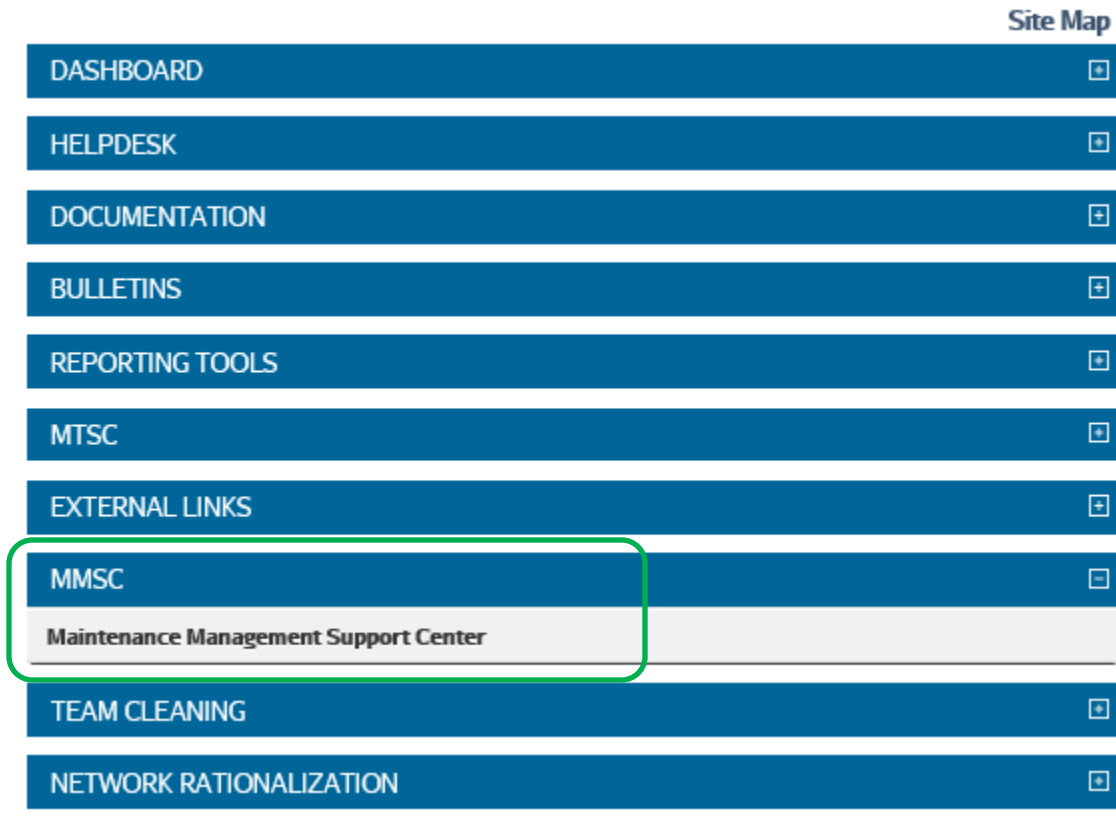

Figure 4. MMSC Link on MTSC Website
- b. In the right column, select **MMSC** and click **Maintenance Management Support Center** (Figure 4).